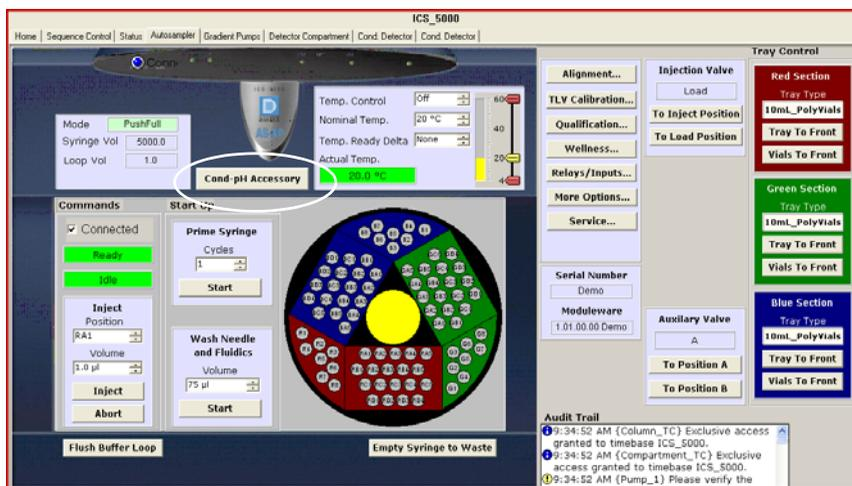

Figure 28. Example Chromeleon 6.8 Panel Tabset: Dionex AS-AP Control Panel
2. On the **Autosampler** Control panel, click the **Cond-pH Accessory** button (see Figure 28).